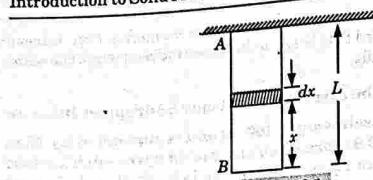

Fig. 1.29.1
1. Fig. 1.29.1 shows a bar AB fixed at end A and hanging freely under its own weight.